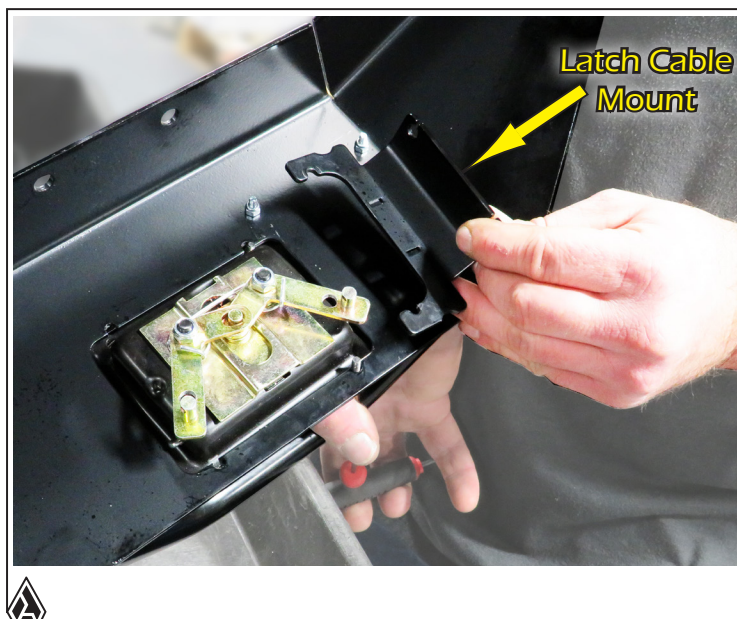
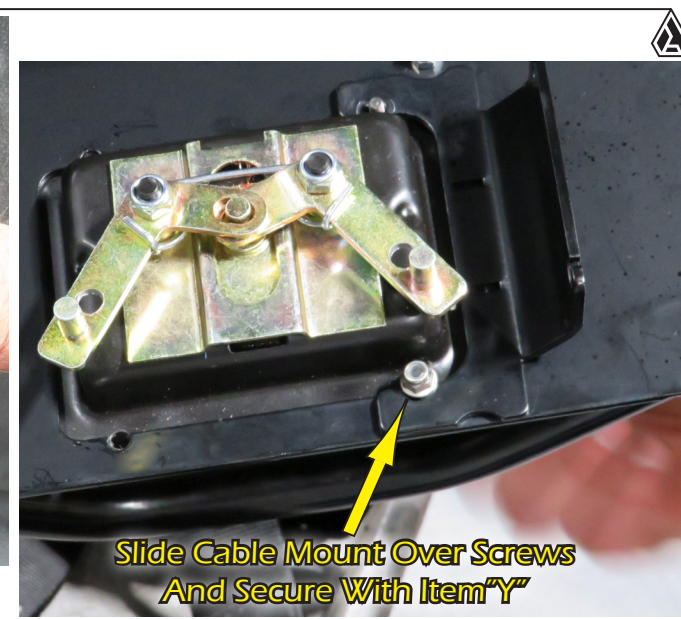

FIG.12A
FIG.12B
12. Now flip the whole Release Mount Assembly over holding the Latch in place as shown in **Fig.12a**. Then locate the **Latch Cable Mount** and slide it over the (2) screws coming thru from the other side and secure it down using **Item "Y"** Nylock Nuts. Make sure you mount this on the correct side as shown in **Fig.12b**.